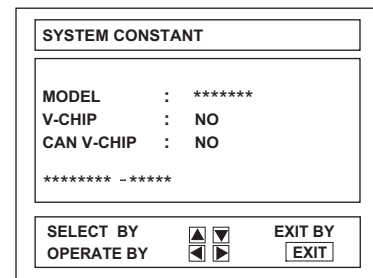

Fig.2
- (3) While the SERVICE MENU is displayed, again simultaneously press the [DISPLAY] and [VIDEO STATUS] keys to display the SYSTEM CONSTANT screen (Fig.2).
- (4) Refer to the Table 1 of SYSTEM CONSTANT SETTING, and check the setting items. Where these differ, select the item with the [CH (-/+)] key and adjust it with the [VOL (-/+)] keys (The letters of the selected item are displayed in yellow).
- (5) The setting value will be stored automatically when release the remote control unit keys.
- (6) Press the [EXIT] key twice to return to the normal screen.
(7) SERVICE MENU setting